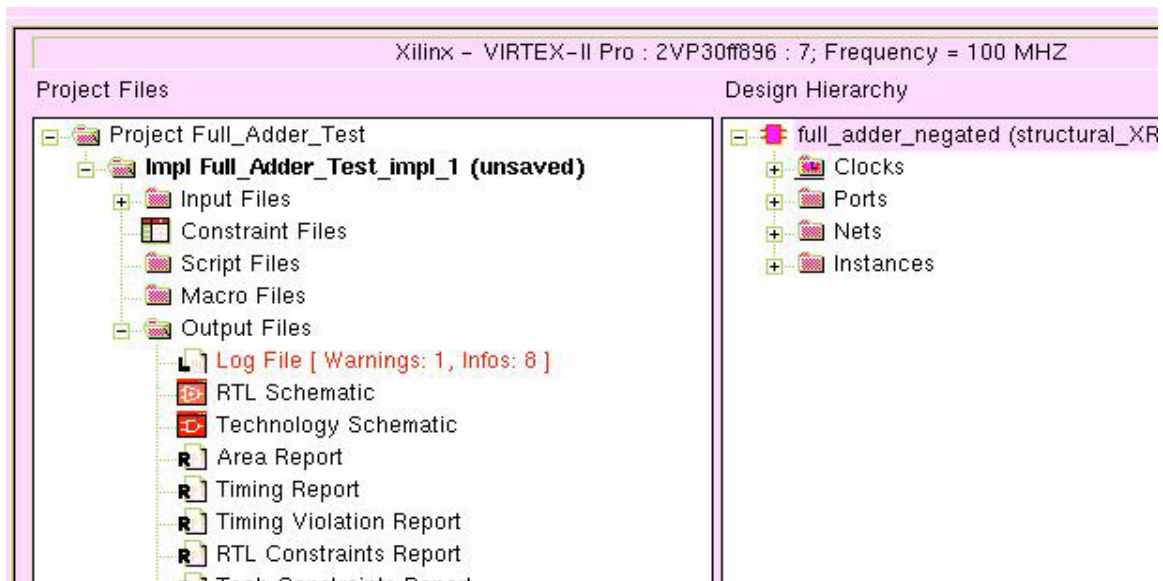

Figure 16: Main window after the Synthesize command.
(11) Upon completion of the Synthesize command, the middle pane of the main window will appear as shown in Figure 16.